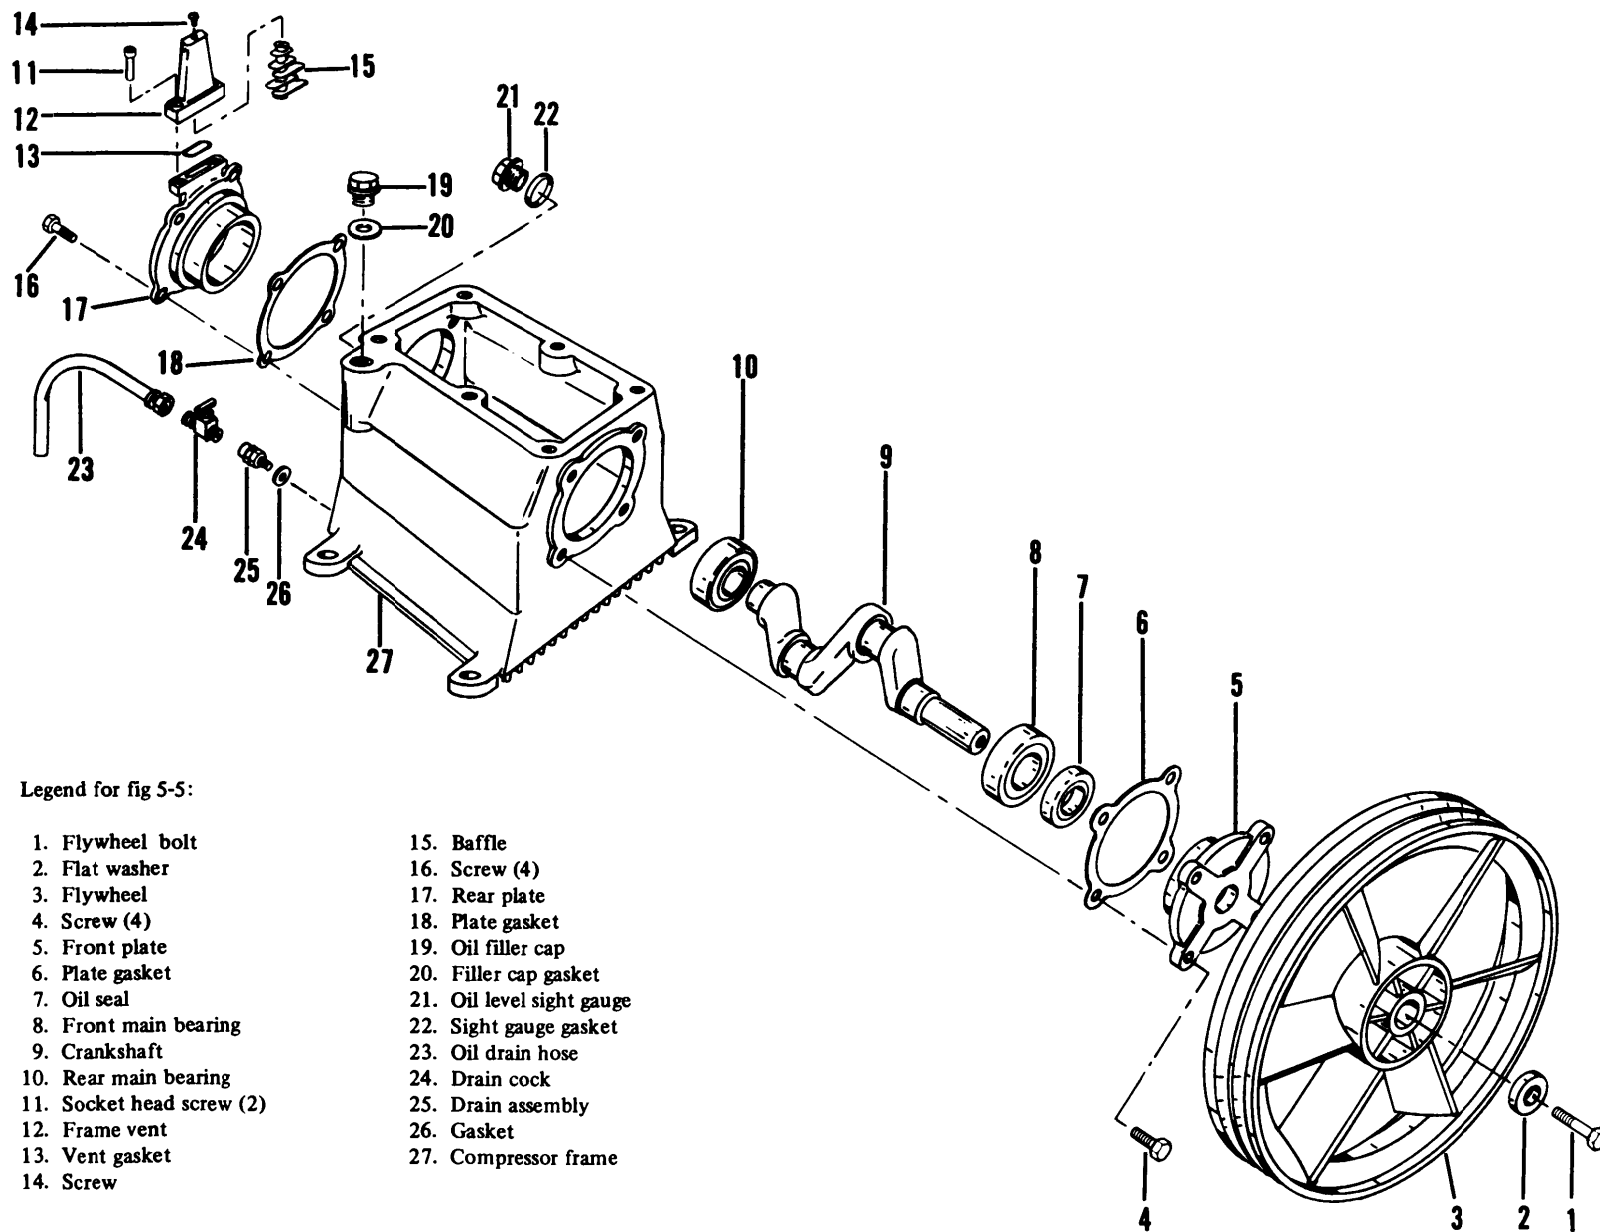

Figure 5-5. Crankshaft, bearings, seal, and compressor frame
- (1) Remove oil drain hose (23, fig 5-5), drain cock (24), drain assembly (25) and gasket (26) from frame (27).
- (2) Remove flywheel bolt (1, fig 5-5), washer (2) and flywheel (3) as instructed in para 4-21.
- (3) Unscrew and remove four screws (4), the front plate (5) and gasket (6). Use a suitable puller and remove oil seal (7).
- (4) Pull crankshaft (9), with bearings (8, 10) out of compressor frame (27). As necessary, use a puller to free bearing (10) from bore in rear plate (17).
**b. Cleaning.** Wipe gasket (13, fig 5-5), baffle (15), oil filler cap (19), gasket (20), oil level sight gauge (21) and gasket (22) clean with a cloth moistened with solvent, P-D-680, or equivalent. If gasket material has stuck to mounting surfaces of end plates (5, 17) or compressor frame (27), carefully scrape off material. Clean other parts with solvent, P-D-680, or equivalent, and dry thoroughly.
**c. Inspection.** Inspect all parts for cracks, breaks, distortion, and for damaged threads. Inspect bearings (8, 10, fig 5-5) for free movement without gritty action. Inspect crankshaft (9) connecting rod bearing journals for scoring and excessive wear. Minimum allowable diameter is 1.7699 inches (44.955 mm).
**d. Replacement.** Replace gaskets (6, 18, fig 5-5) each time end plates (5, 17) are removed. Replace oil seal (7) each time removed. Replace all damaged parts. If crankshaft (9) bearing journals are worn beyond allowable limits and beyond use of undersize connecting rod bearings (see TM 5-4310-375-24P), replace the crankshaft (9).
- (1) Install sight gauge gasket (22, fig 5-5) and oil level sight gauge (21) into compressor frame (27). Install filler cap gasket (20) and oil filler cap (19).